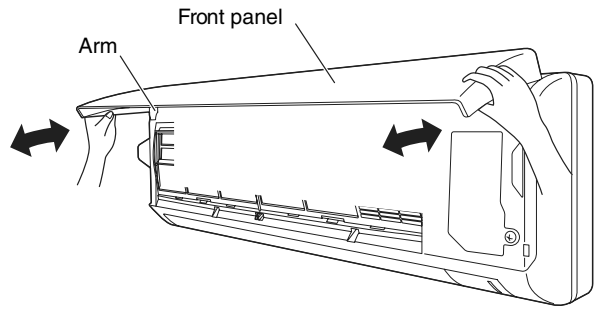

Fig. 9
- (1) Open the front panel until it is nearly horizontal, grasp the sections near the front panel arms on both sides, and then pull towards you to remove the front panel. (Fig. 9)